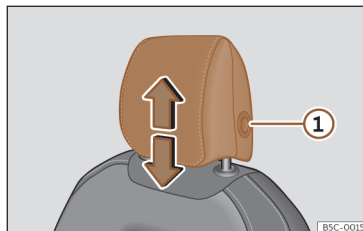
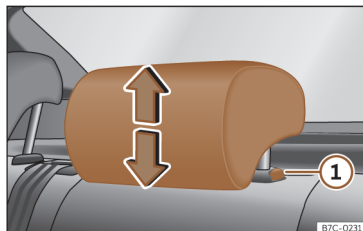

Fig. 96 Front seat: adjusting the head restraint.
Fig. 97 Rear headrest: adjusting the headrest.
- Grab the sides of the head restraints with both hands and push upwards to the desired position. To lower it, repeat the same action, pressing the button on the side ① >>> Fig. 96, >>> Fig. 97.